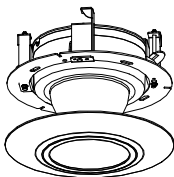

Figure 2-36 Assemble the Decorative Rim
6. Fix the decorative rim with the bubble and the decorative rim will be attached to the in-ceiling bracket automatically, as shown in Figure 2-36.